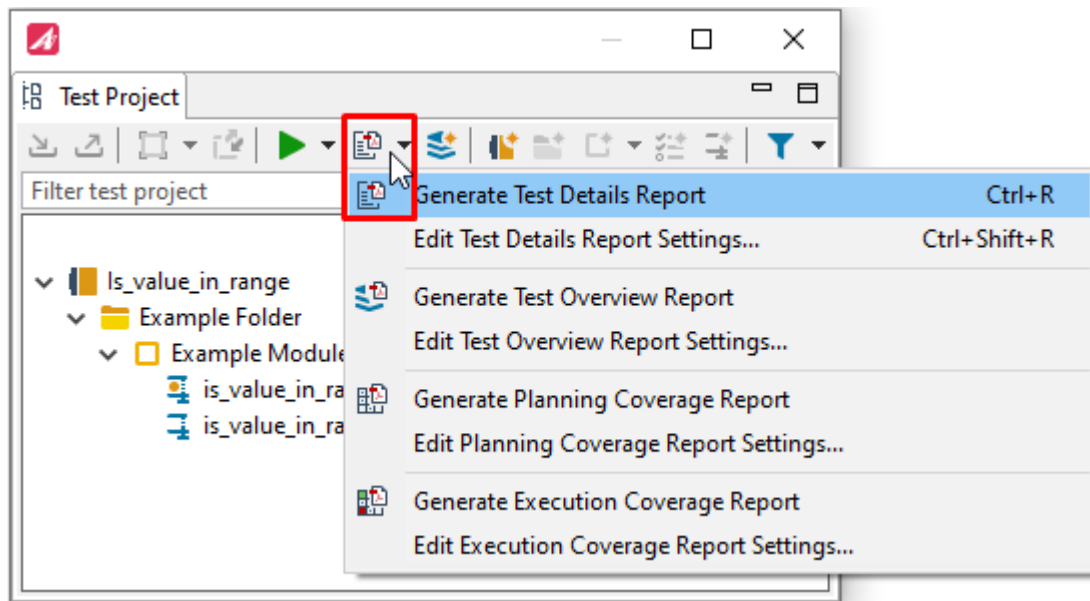

Figure 6.49: Creating a report
- Select the report you wish to create (see figure 6.49).